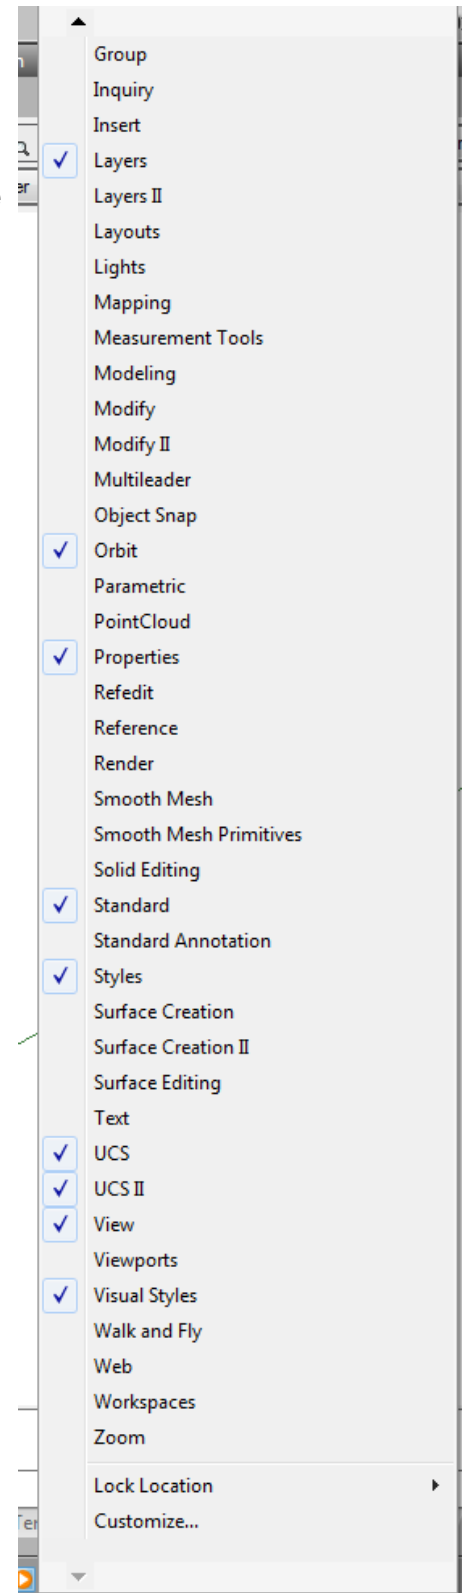

Figure Step 7
Step 7 Move the Graphic cursor onto any toolbar icon and right click the mouse. This will pull down a list of all available toolbar menus. The ones that are preceded with a checkmark are enabled and are currently displayed in the Graphic window. Ensure that the toolbars: Layers, Orbit, Properties, Standard, Styles, UCS, UCS II, View, and Visual Styles are the only ones enabled. Click on the name to toggle the display of the toolbar. (Figure Step 7)